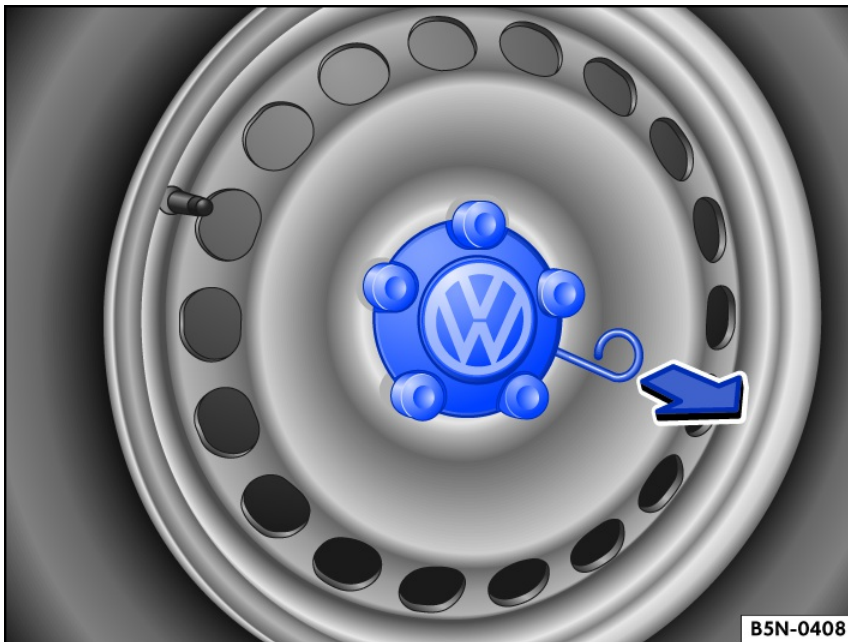

Fig. 208 Remove the wheel center trim.
- *Removing:* Take the extraction hook out of the vehicle toolkit ⇒ Vehicle tool kit components and insert in a hole (alloy wheel) or hook it to the edge (steel wheel) of the hubcap fig. 208.